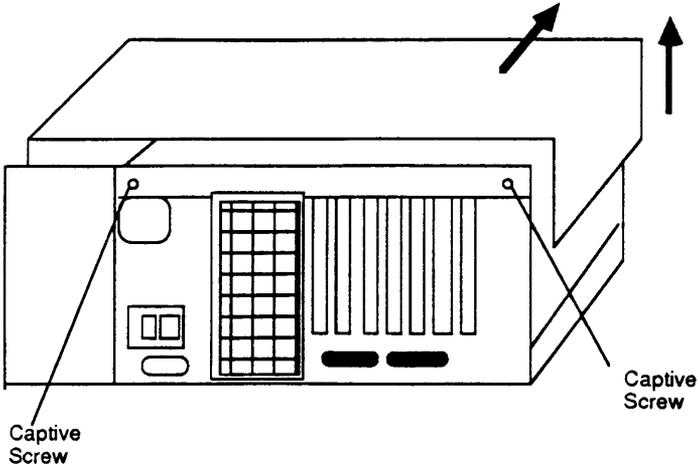

Figure 3-1. Removing the Main Unit's Top Cover
2. Standing in front of the unit, firmly slide the top cover approximately 0.5 inch toward you (Figure 3-1). The cover is designed to fit tightly so it may take some effort to slide it out of its normal position.